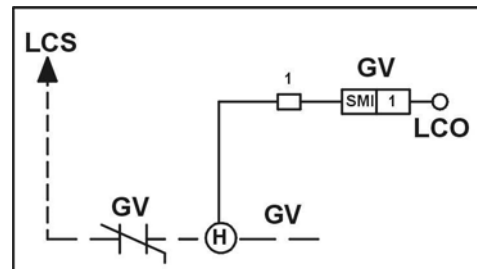

Figure 3-9
**Governor Wiring** two 18 gauge wires are required from the electrical safety switch on the governor to the controller. See [Figure 3-9.]